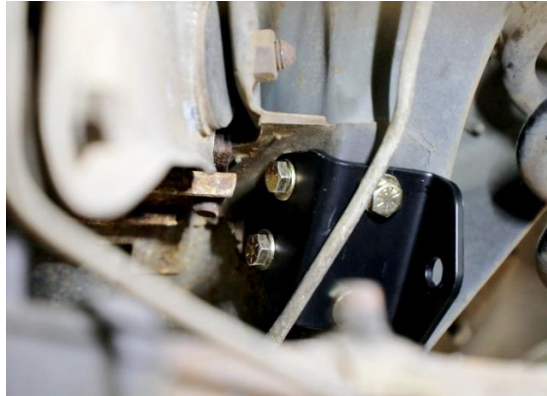

Figure 22 - Install End Link Bracket
25. Place the end link bracket up against the frame rail and install four of the 5/16"-18 x 3/4" L hex head bolts and washers. **NOTE:** It is common for nut inserts to shift during the squeezing step. You may need to open up the through holes in the end link bracket as needed. Apply medium strength blue Loctite 242 to the threads of the bolts. Torque to 15 ft-lbs. Carefully adjust the fuel line on the passenger side back underneath the frame rail (Figure 22).